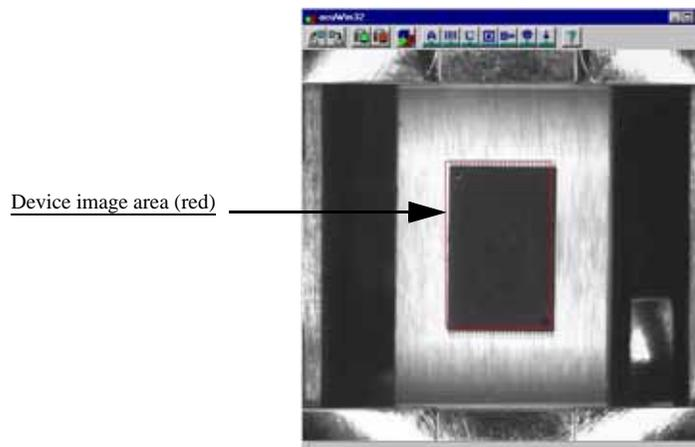

Figure 3-50—Device image area and device
- 7b) In the acuWin32 window, size the device image area so that it covers all of the device. In *Figure 3-50*, the device image area is offset slightly from the device for clarity. In actuality, the device image area needs to cover the device exactly.